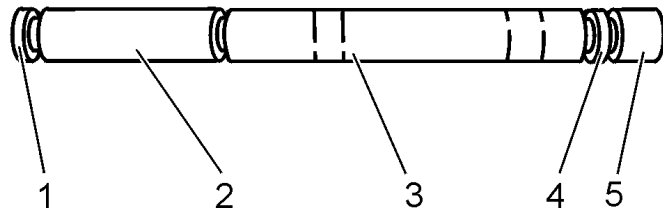

Fig. 14.49. Track Frame Tool (LT or LGP)
Install bolt adapter (5, Fig. 14.49) on retainer plug (4). Insert as an assembly, ram tube (3) and retainer plug (4) with bolt adapter (5) in through front of track frame inserting retainer plug into bore of front spring retainer.